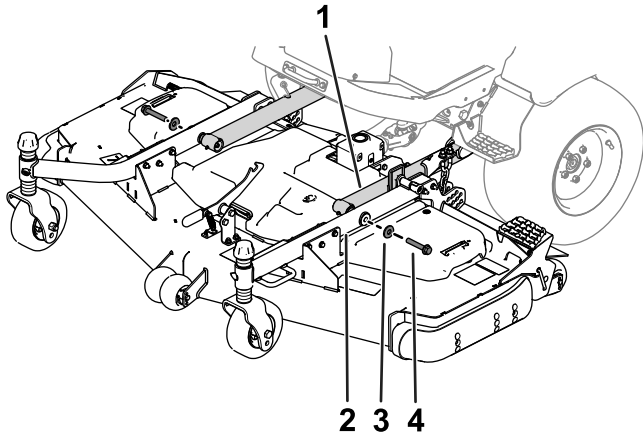

Figure 5
- Use 2 hex-head bolts and 2 washers to secure the castor arms to the lift arms (Figure 5).